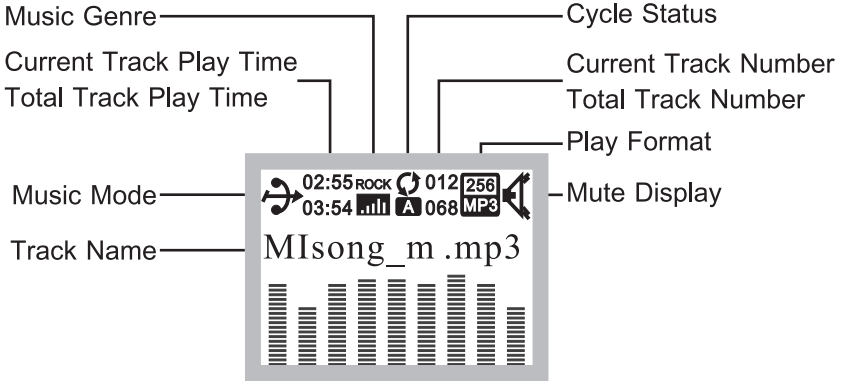

Fig. 7
(A) USB Display Screen, Fig. 7: